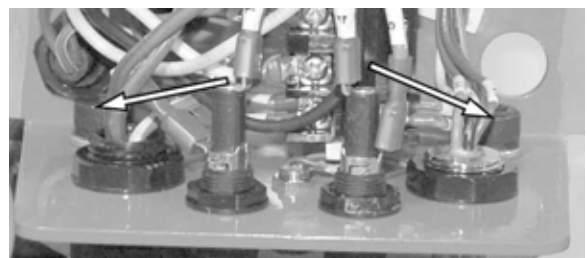

Figure 29.
6. See Figure 29. Do not damage the electrical wires. Remove the two electrical bracket bolts.